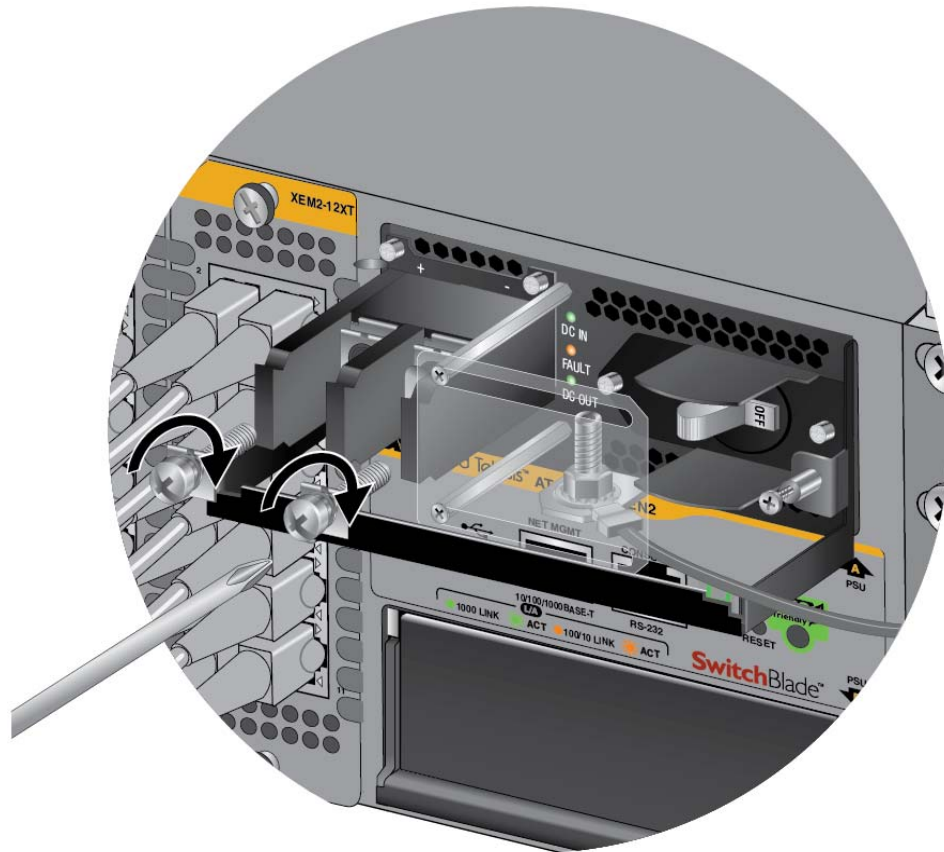

Figure 100. Reinstalling the Screws on the Positive and Negative Terminals
7. Reinstall the two screws on the negative (-) and positive (+) terminals. Refer to Figure 100 on page 138.